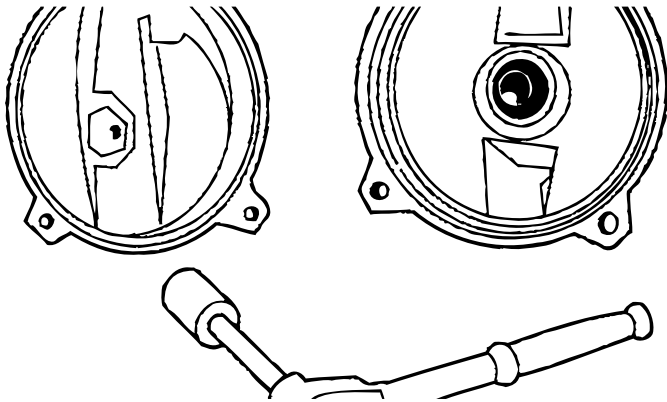

Figure 14 - Remove Nozzle
8. Nozzle on 1/2 HP models can be removed from pump case with any standard 1-1/4" socket wrench with an extension (Figure 14).